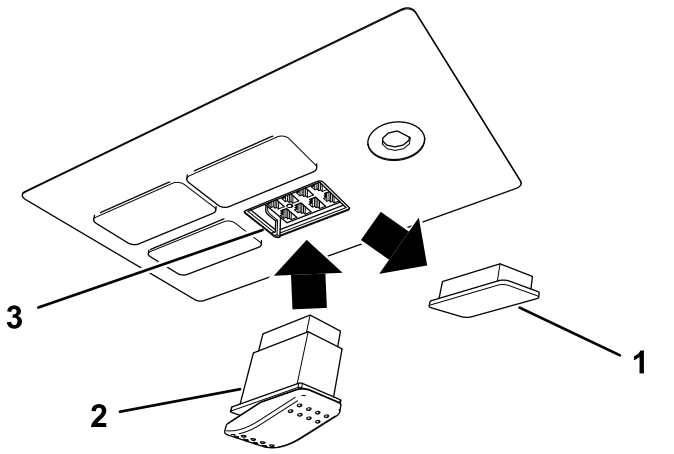

Figure 11
9. Remove and discard the plug from the front left space in the switch panel (Figure 11).
10. Plug the electrical connector into the switch and install the switch into the switch panel (Figure 11).